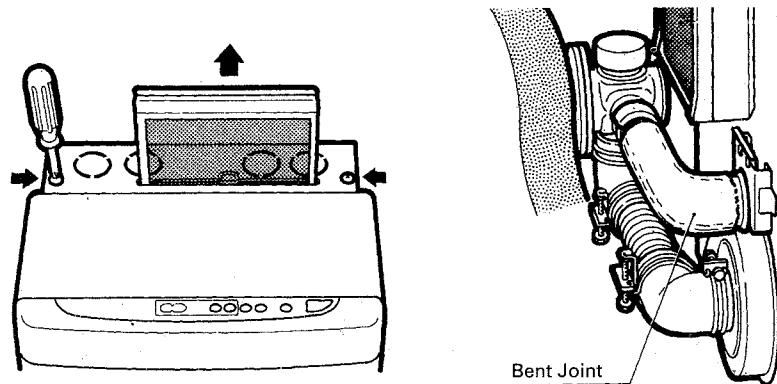

Fig. 11
7. Move the heater into position. Remove the filter and the two (2) screws holding the upper rear cover. Connect the bent joint to the exhaust outlet mouth and attach the L-shaped hose to the intake inlet mouth. Make sure all connections are tight (See Fig. 11).